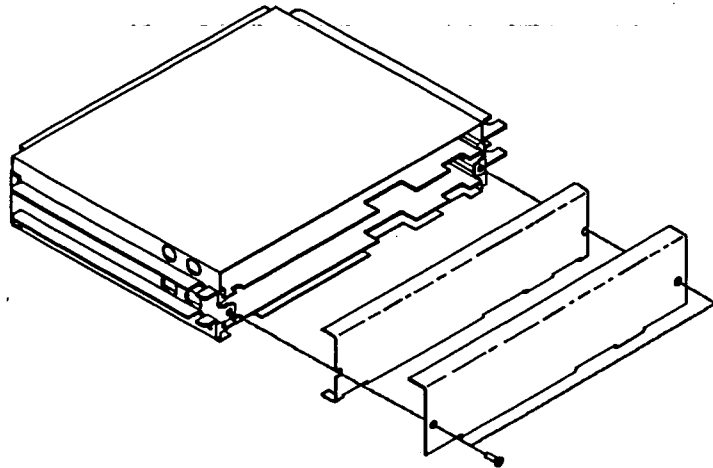

Figure 2-7. A6 Baseband Housing Shield Covers
10. Remove the two screws securing the covers to the A6 Baseband Boards Housing Assembly. See figure 2-7.